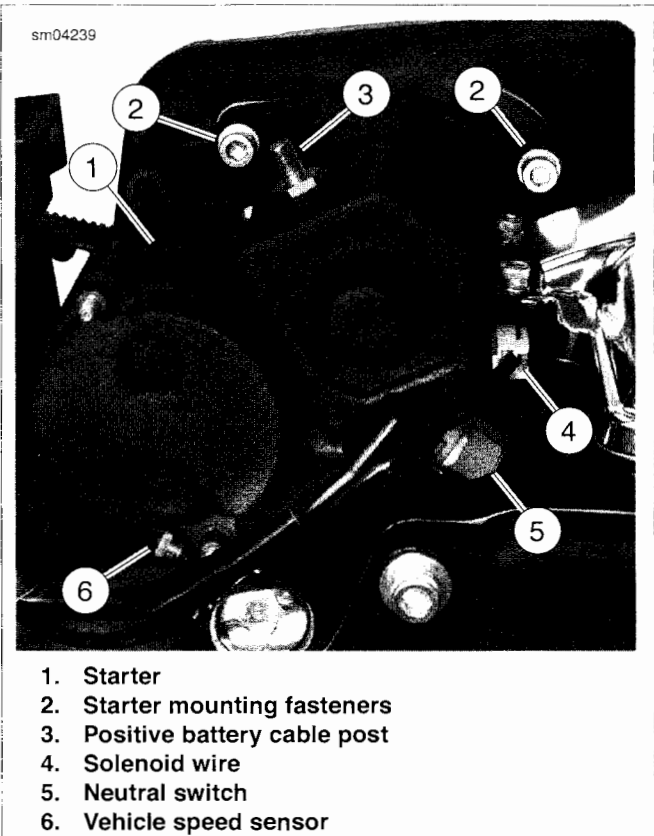

Figure 7-25. Starter
3. See Figure 7-25. Remove both starter mounting fasteners (2).
4. Detach solenoid wire (4).
2. See Figure 7-25. Apply LOCTITE THREADLOCKER 243 (blue) to threads of both starter mounting fasteners (2). Install and tighten to 25-27 ft-lbs (33.9-36.6 Nm).
4. Attach solenoid wire (4).